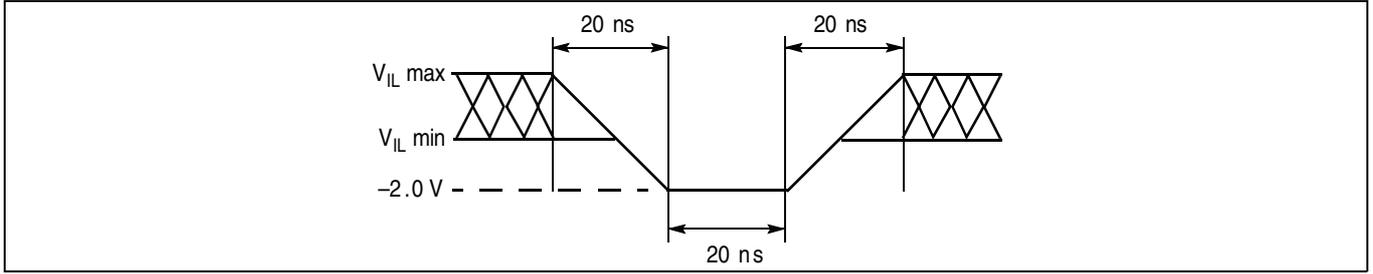
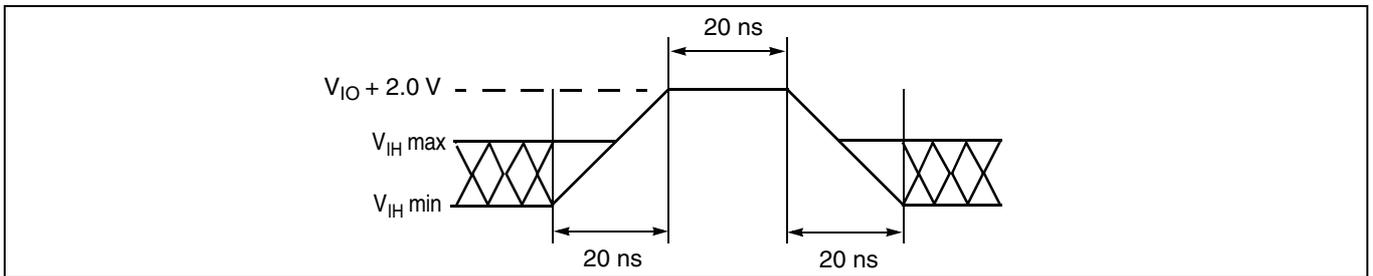

Figure 11 Maximum negative overshoot waveform
Figure 12 Maximum positive overshoot waveform
67. Minimum DC voltage on input or I/O pins is -0.5 V. During voltage transitions, input or I/O pins may undershoot VSS to -2.0 V for periods of up to 20 ns. See Figure 11. Maximum DC voltage on input or I/O pins is VCC + 0.5 V. During voltage transitions, input or I/O pins may overshoot to VCC + 2.0 V for periods up to 20 ns. See Figure 12